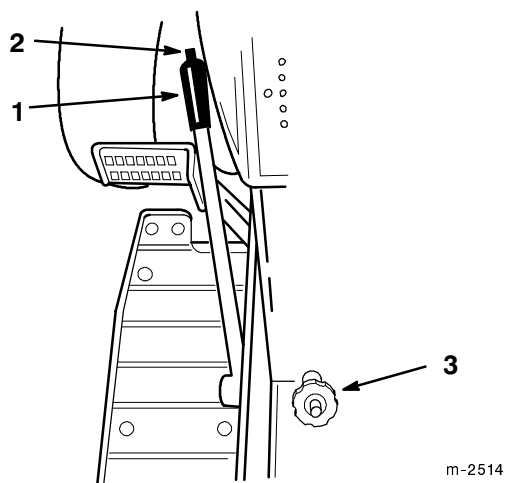

Figure 22
The attachment lift lever (Fig. 22) is used to raise and lower various attachments.
The Dial-A-Height control (Fig. 22) is used to limit the downward travel of the attachment. The Dial-A-Height knob is rotated to change the location of this stop, up or down.
1. Raise the attachment lift: Refer to Raising Attachments. In the raised position the Dial-A-Height knob (Fig. 22) can be rotated to change the stop location. Turn clockwise to raise and counterclockwise to lower the height of the attachment.
2. The Dial-A-Height indicator (Fig. 22) will show the change, high to low, in attachment lift height as adjustment is made.